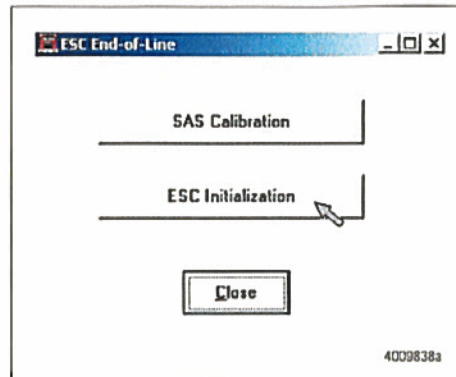

Figure 12
3. Click on "ESC Initialization". Figure 12.